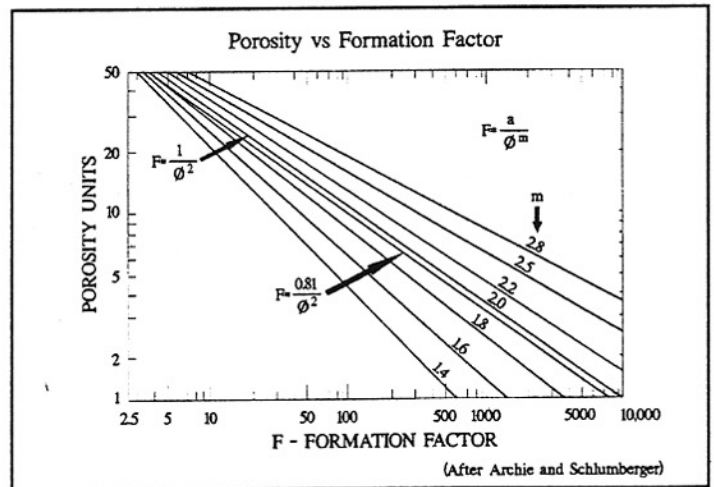

Figure 6
- Visually determine clastic porosity, estimate F, then enter cross plot by Archie and Schlumberger (Fig. 6).